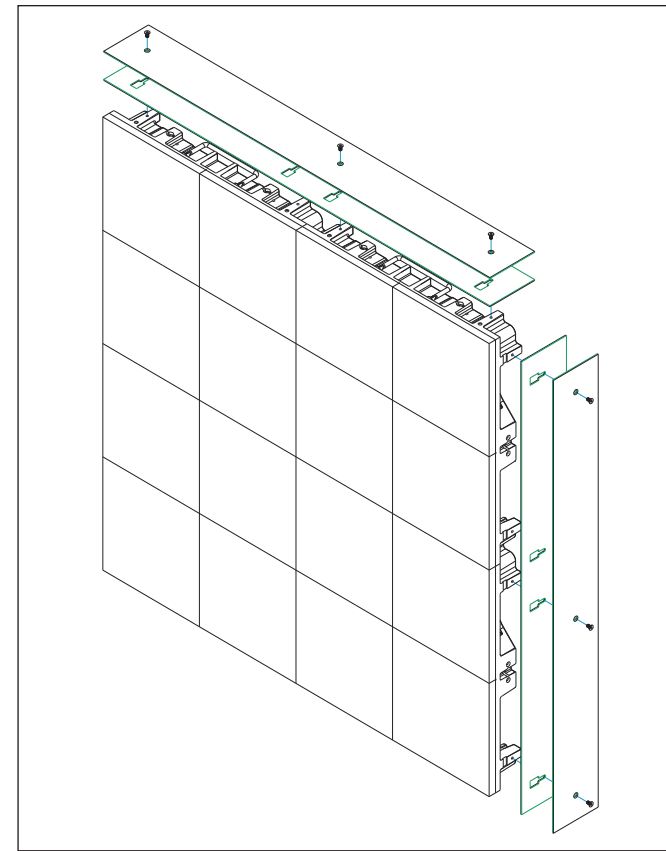

Figure 1: Bring Border Spacer & Border into Position
3. Bring the border spacer and border into position with the border spacer oriented so the rear end of the slot aligns with the border mounting holes when all edges are aligned. Refer to **Figure 1**. Ensure the borders are oriented with the countersink exposed and the front edge even with the front of the LED face.